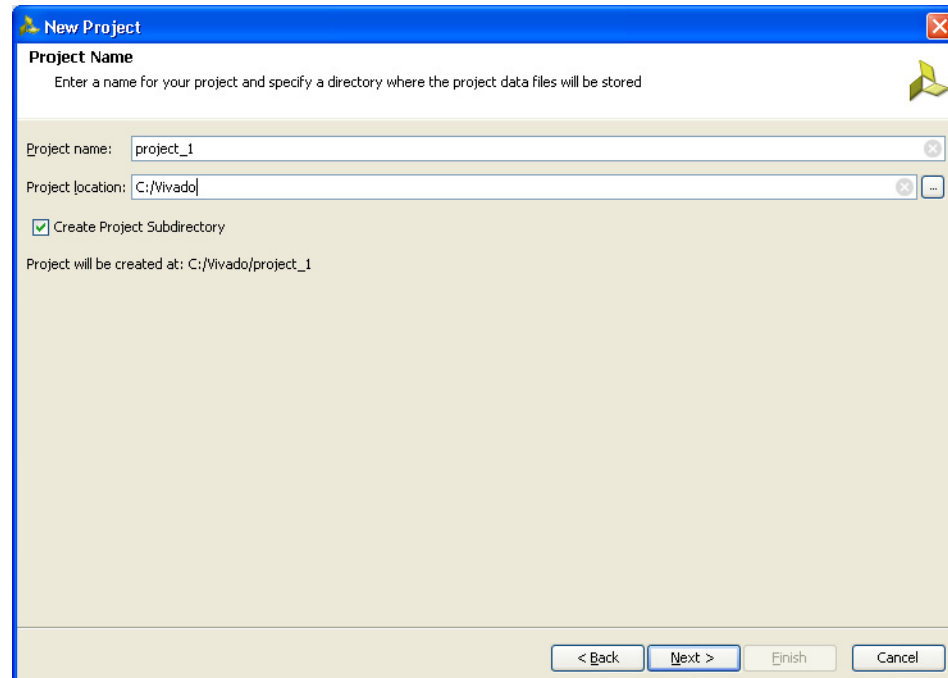

Figure 4-3: Project Name
3. Click **Next** to proceed to the Project Name page (Figure 4-3). Enter the Project Name and Project Location. Based on the details provided, the project is saved in the directory.